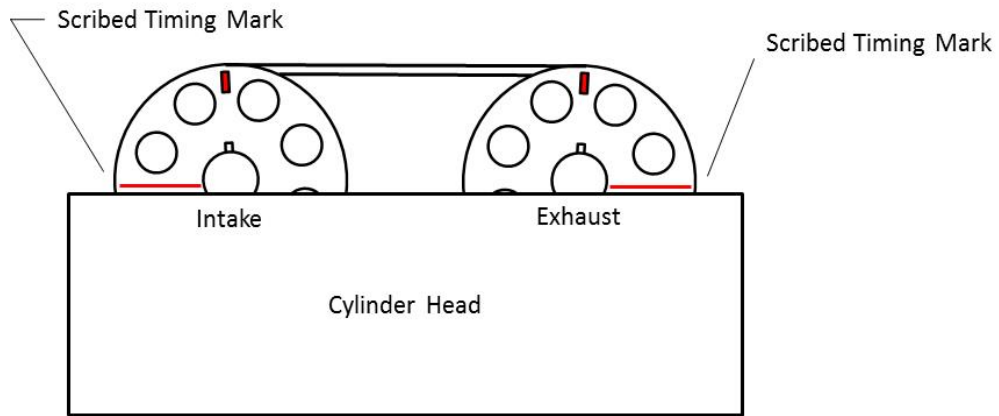

Figure 1 Timing Alignment
- _____ jj. Remove the retainer pin and carefully lift the timing chain as not to dislodge the timing chain wedge. Then place the intake camshaft and sprocket into their installed position. Ensure that the marked link or gold link and the mark on the intake camshaft sprocket line up, and that the line marked on the sprocket is level with the cylinder head / valve cover mating deck. See Figure 1. Do not install the camshaft bearing caps at this time.
- _____ ll. Carefully lift the timing chain and install the exhaust camshaft sprocket into its installed position. Ensure the chain slack between the crankshaft sprocket and the exhaust camshaft sprocket is taken out (exhaust side of engine). Ensure that the marked link or gold link and the mark on the exhaust camshaft sprocket line up, and that the line marked on the sprocket is level with the cylinder head / valve cover mating deck. See Figure 1. Install the exhaust camshaft sprocket bolt and hand tighten only.
- _____ qq. Ensure the timing marks on the crank pulley, intake camshaft sprocket and exhaust camshaft sprocket are in the appropriate positions as indicated in Figure 1.